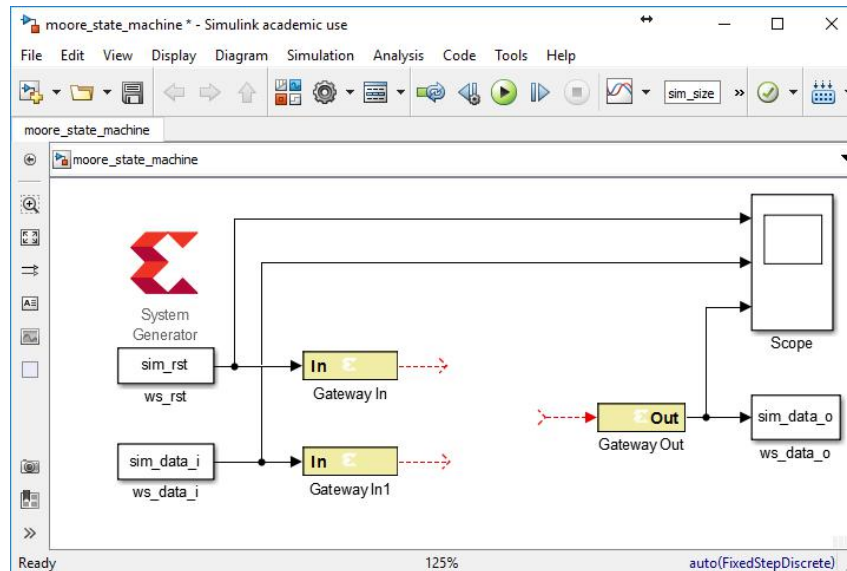

Fig. 7. Connected Gateway In/Out.
6. Connect the work space variables (*sim_rst*, *sim_data_i*, *sim_data_o*) with input and output Gateway as in Fig. 7.